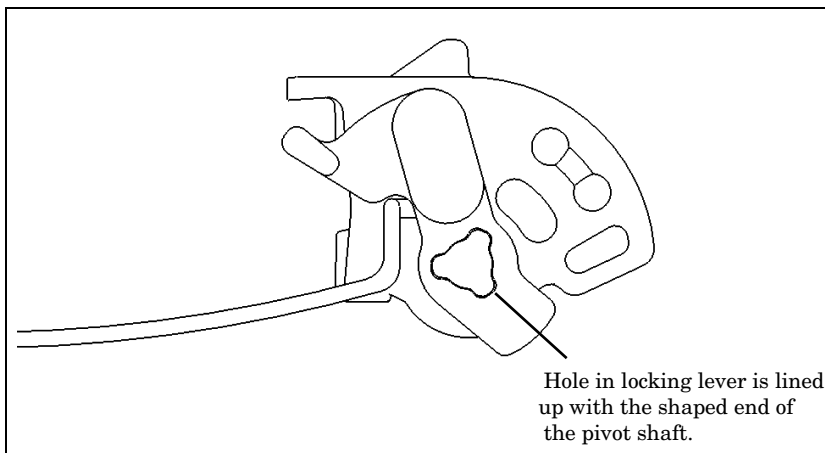

Fig. 12. Lining up the locking lever with the shaped end of the pivot shaft on needle guide UA1265 ready for removal.
3. Make sure that the shaped hole in the locking lever is lined up with the similarly shaped end of the pivot shaft. (See Fig. 12.)